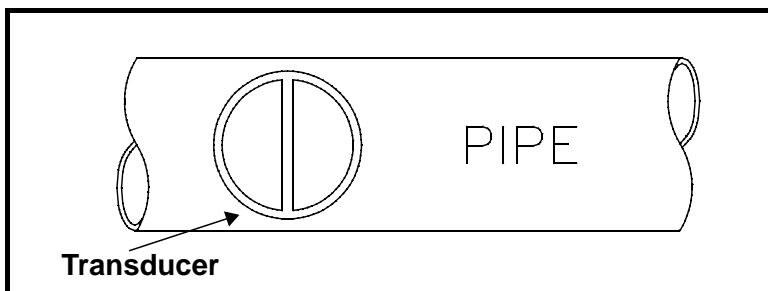

Figure 9-3: Proper Alignment of Thickness Transducer on Cylindrical Surfaces
5. Place the tip of the transducer on the pipe surface over the couplant. Use moderate to firm pressure and keep the transducer face as flat as possible. The line on the transducer face should be positioned perpendicular to the pipe axis as shown in Figure 9-3 below.